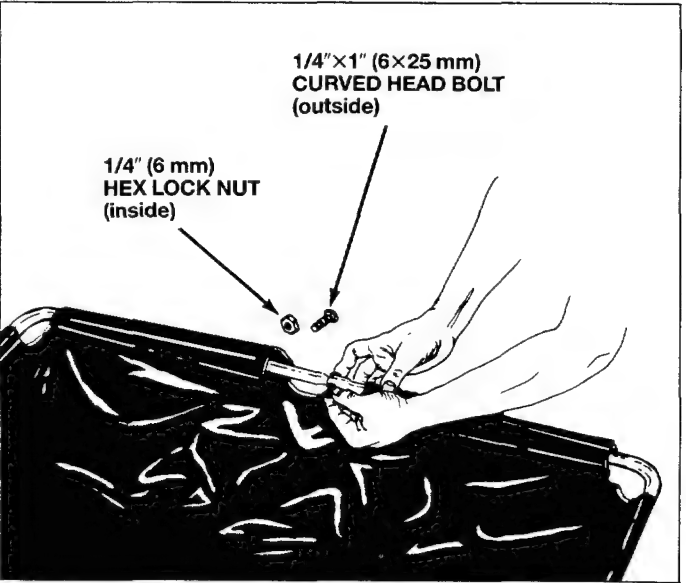

Fig. 15
4. Secure the upper hopper tubes with 1/4"×1" (6×25 mm) curved head bolt and hex lock nut. See figure 15.